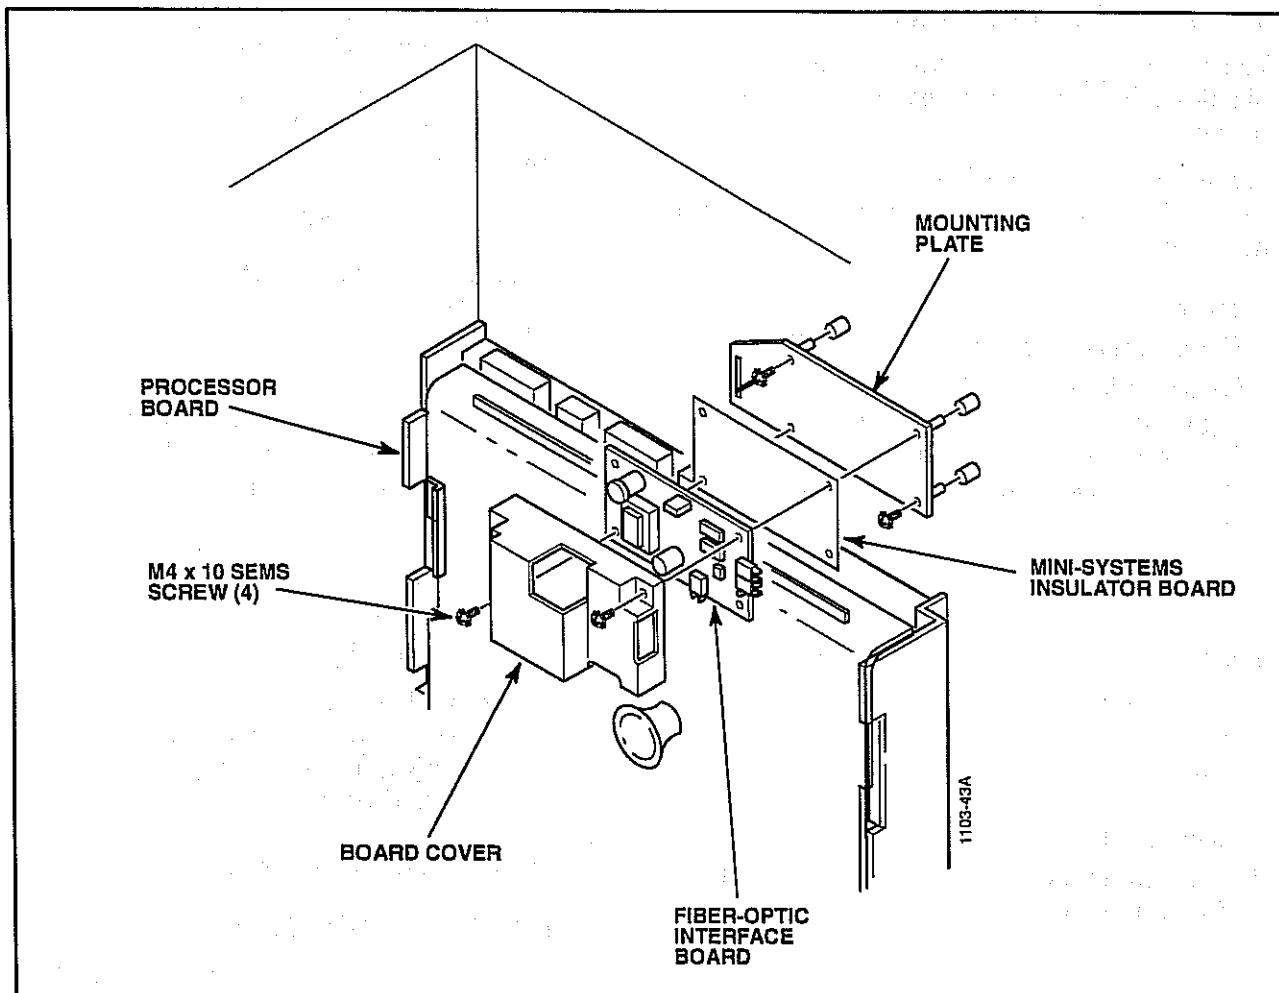

Figure 5-53. Typical Fiber-Optic Interface Board Installation.
5. Mount the board by pressing it firmly against the side of the lower module to ensure that the adhesive holds. See Figure 5-53 for correct placement of the board. Fasten securely with the four sheet metal screws included in the DLI kit.